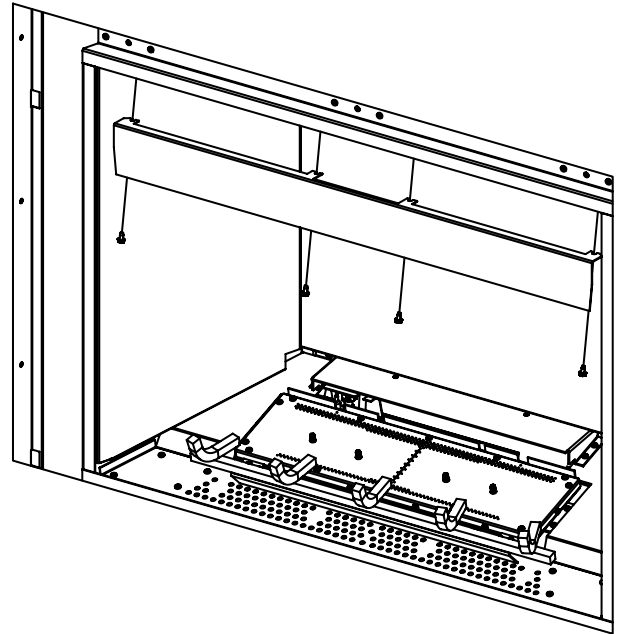

Figure 25: Light Deflector Removal
3. Remove light deflector, screws do not need to be removed, just loosen. (see Figure 25).